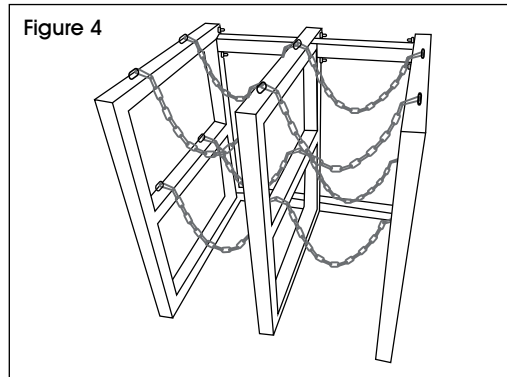

Figure 4
4. Attach chains as needed. (See Figure 4)